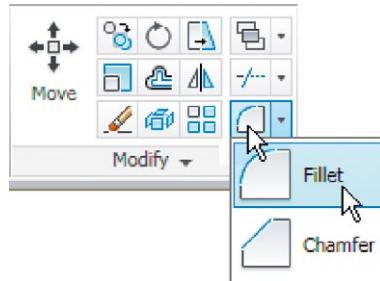

Fig. 5.41 Select **Fillet** from the menu in the **Home/Modify** panel
2. Call Fillet – click the arrow to the right of the tool icon in the **Home/Modify** panel and select **Fillet** from the menu which appears (Fig. 5.41), pick **Fillet** from the **Modify** drop-down menu or *enter f* or **fillet** at the command line which then shows: